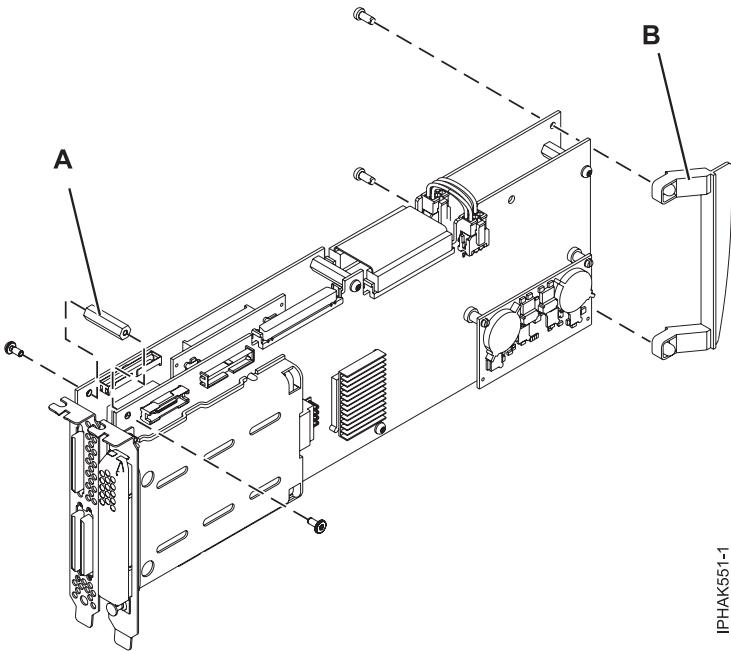

Figure 49. Removing the adapter handle and spacer
1. Remove the adapter handle (B) and the spacer (A) between the two halves of the adapter. Optionally, you can also remove the cache battery cover. See Figure 49 on page 66.